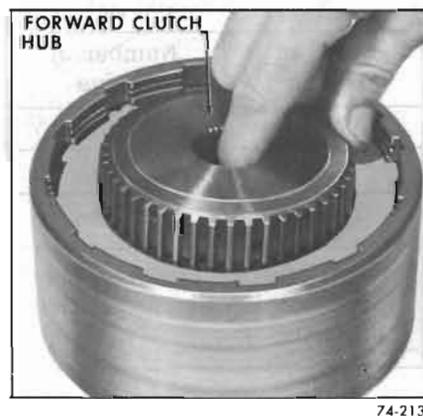

Figure 74-213
4. Lift forward clutch hub from clutch pack. See Figure 74-213.